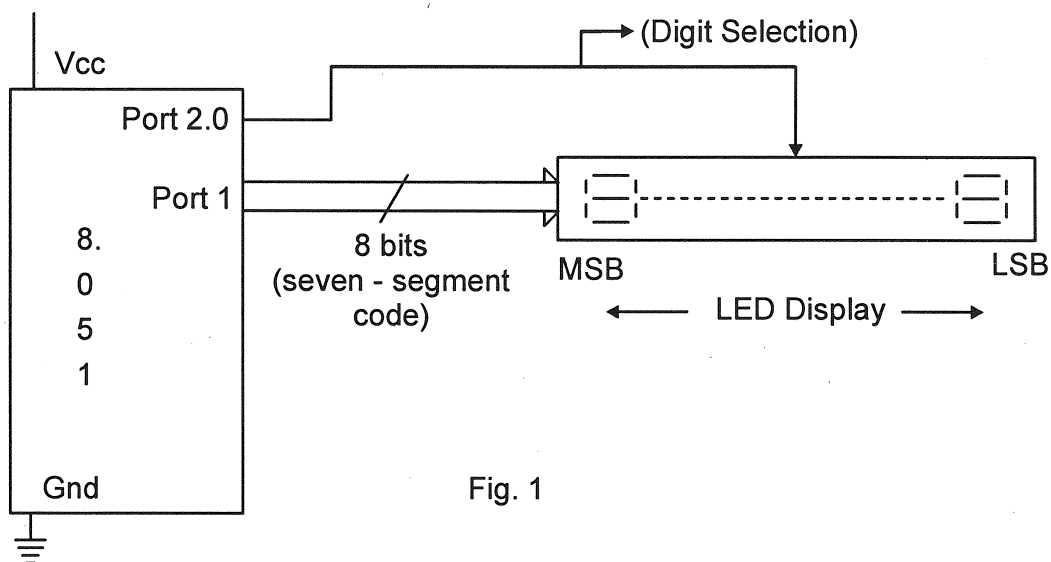

Fig. 1
- b) Write an assembly language program for the interfacing of a seven-segment LED Display shown in Fig. 1. 10